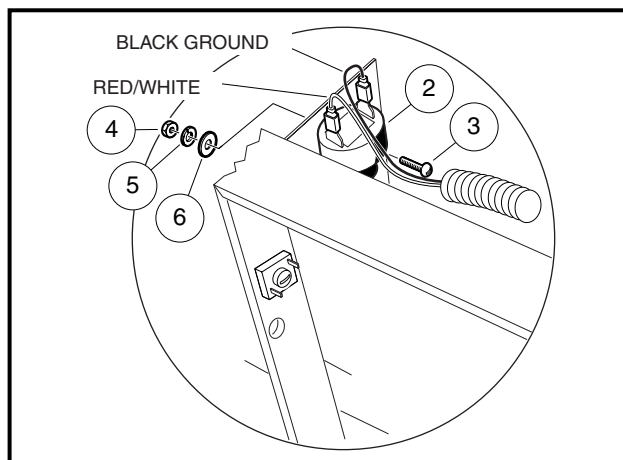

Figure 12a-23 Front Reverse Warning Buzzer
1. Install the screw (3) through the buzzer (2) bracket tab and frame for front and/or rear warning buzzer, secure with hardware, and tighten to 14 in-lb (1.6 N·m) (**Figure 12a-23, Page 12a-19**). **See following NOTE.**
3. Disconnect the wires from the reverse buzzer limit switch (4) located on the back of the Forward/Reverse assembly (**Figure 12a-21, Page 12a-18**).
4. Remove the nuts (2) and washers (6) from the lockout cam limit switch (5) and slide the lockout cam limit switch off of the screws. Do not disconnect the wires.
5. Remove the spacers (9) from the reverse buzzer limit switch (4) and slide the reverse buzzer limit switch off the screws.